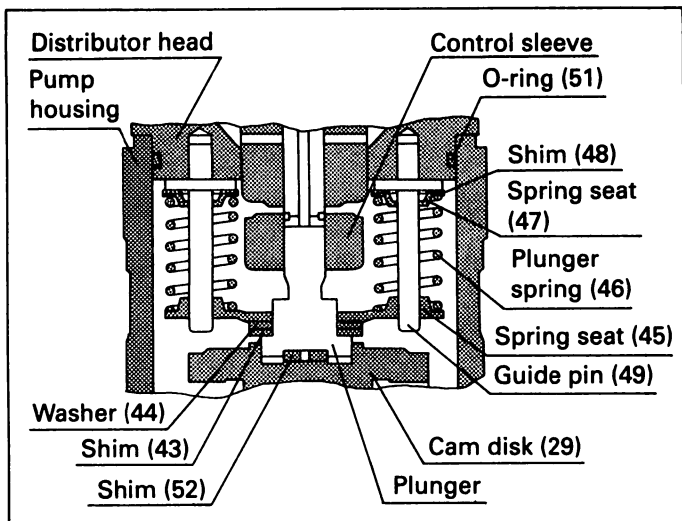
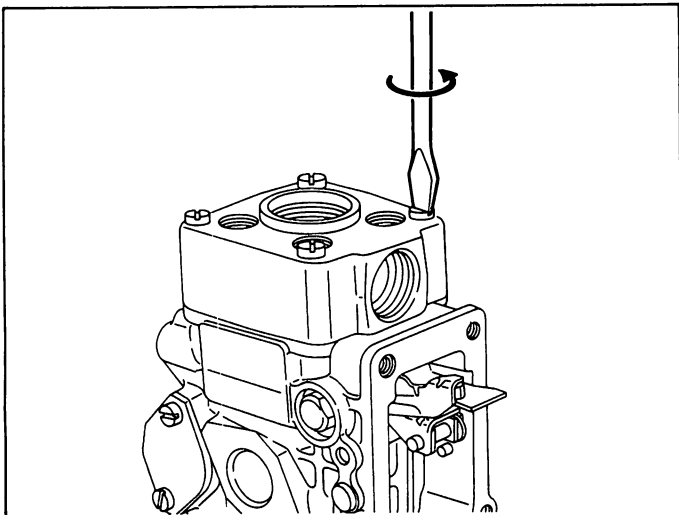

Fig. 72 Distributor head/plunger assembly diagram
Fig. 74 Securing the distributor head
8. Carefully fit the reassembled distributor head onto the pump housing after positioning the springs (106) so that they face the governor lever assembly. (Figs. 72 and 73)
9. Take care not to damage the O-ring (51).
10. Check that the ends of the guide pins (49) are properly seated in the spring seat (45) guide holes, the governor lever assembly ball pin (95) is inserted in the control sleeve hole and that the shim (52) is properly seated between the cam disk and the bottom of the plunger.
11. Fix the distributor head assembly (50) to the pump housing with the four screws (60). Tighten all four screws gradually and uniformly. (Fig. 74)